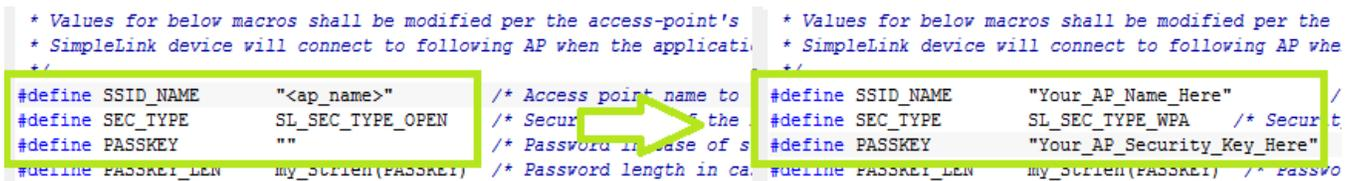

Figure 15. Macro Definition of SSID_Name
5. Edit *sl_common.h* to use the SSID, security type and security key of the Access Point being used. Edit the macros *SSID_NAME*, *SEC_TYPE* and *PASSKEY* to contain the Access Point's information as shown in Figure 15. The security types supported for this demo are WPA/WPA2 and Open. For Open security, define *SEC_TYPE* as *SL_SEC_TYPE_OPEN*. For WPA and WPA2 security, define it as *SL_SEC_TYPE_WPA*.